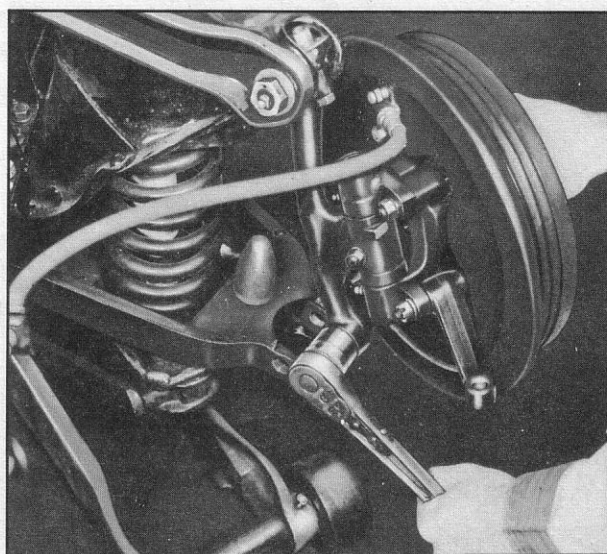

Fig. 17—Removing Lower Pivot Bolt Bushing
6. Remove lower pivot bolt bushing from the knuckle support (fig. 17).